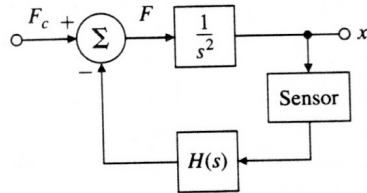

Figure 5.62: Block diagram for rocket-positioning control system
31. Consider the rocket-positioning system shown in Fig. 5.62.